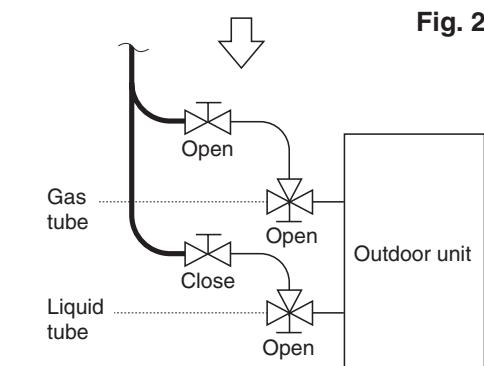

Fig. 2-38
- If the additional refrigerant charge amount cannot be charged at once, charge the remaining refrigerant in liquid form by using the gas tube service valve with the system in cooling operation mode at the time of test run. (Fig. 2-38)